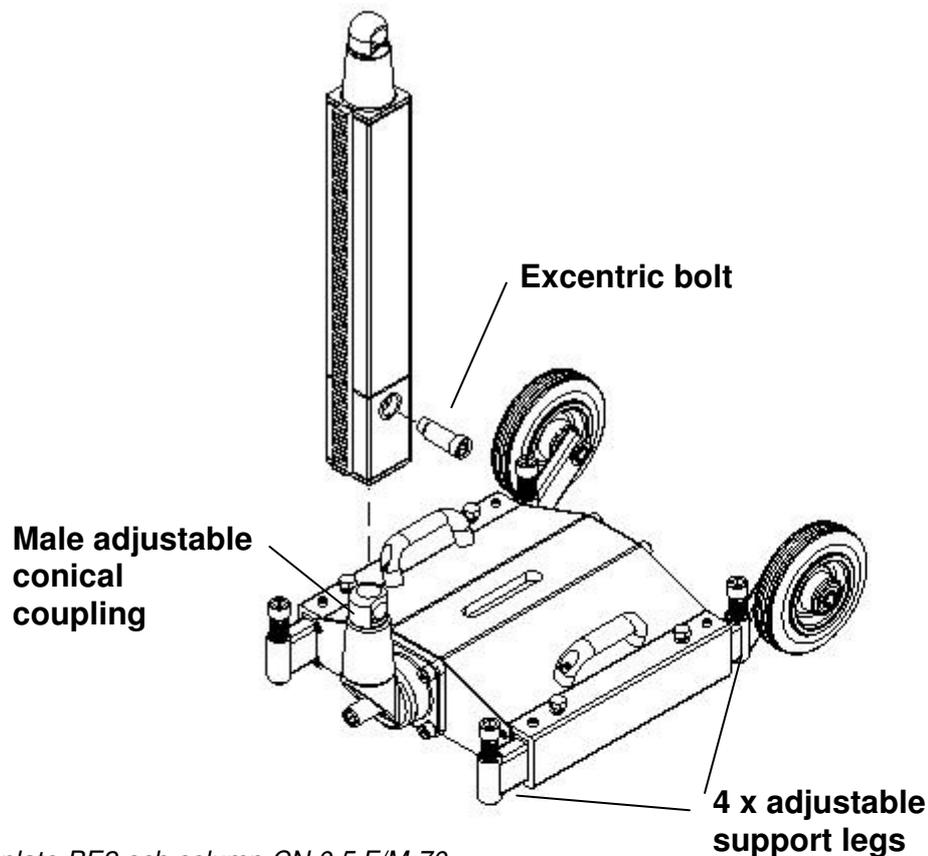

Fig. 2. Base plate-BE2 och column-CN 0.5 F/M-70.
3. Fit the column on the base plate (see fig. 2).
4. Pull out the support legs (see fig. 2) and check with the level to see that the column stands vertical and steady. If not, adjust with the screws on the support legs until the column stands correctly.